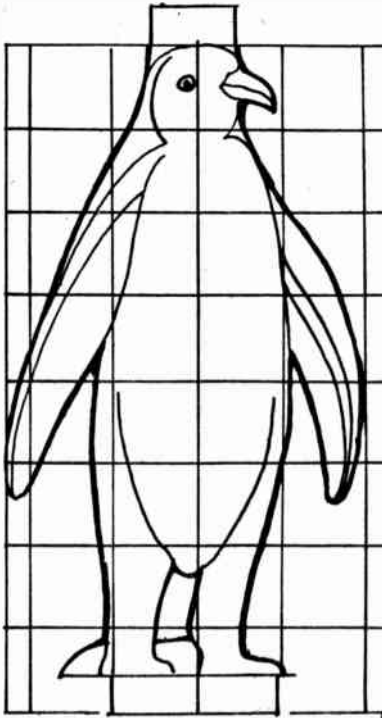

Fig. 5—Outline of the figure
each must be carefully marked out and the centres bored with a $\frac{1}{4}$ in. twist drill. They are then ready for the bars which consist of $\frac{1}{2}$ in. round dowelling. At (A) in Fig. 4 are given the correct spacings to be set out with the shallow mortise (C) in the lower rail, for the penguin panel which is fretted and coloured up as shown in detail in Fig. 5. As this panel will be of $\frac{1}{2}$ in. wood, the actual size of the mortise must be 2ins. by $\frac{1}{2}$ in. In the upper rail, however, the mortise will be
The panels of wood for the penguins must be nearly $8\frac{1}{2}$ ins. long by 5 ins. wide. Over one of them, draw 1 in. squares and the outline as shown in Fig. 5. Cut round with the fretsaw and clean up the edges. Then lay this cut-out on the second panel and mark round it with a sharp pencil.